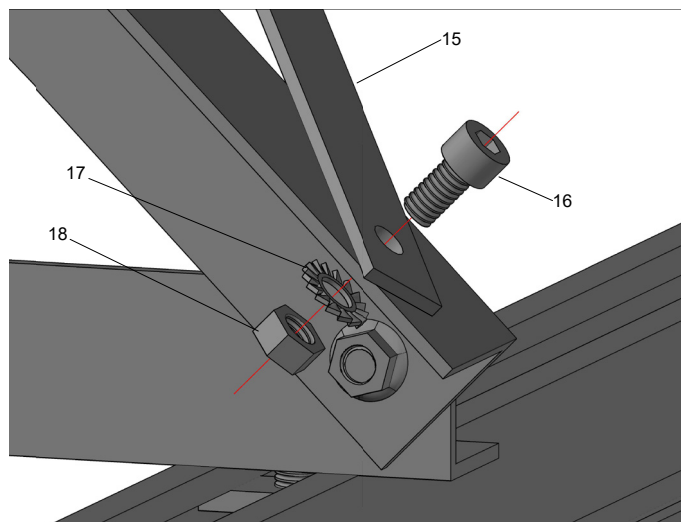

Figure 5-7: Fixing the Securing Cruciform and Mounting Rail
7. Refer to Figure 5-7. Position the pre-drilled hole in the lower part of the securing cruciform over the pre-drilled hole in the lower part of the short L-profile of the flat roof mounting bracket. Secure with the bolts, grip washers and nuts supplied.